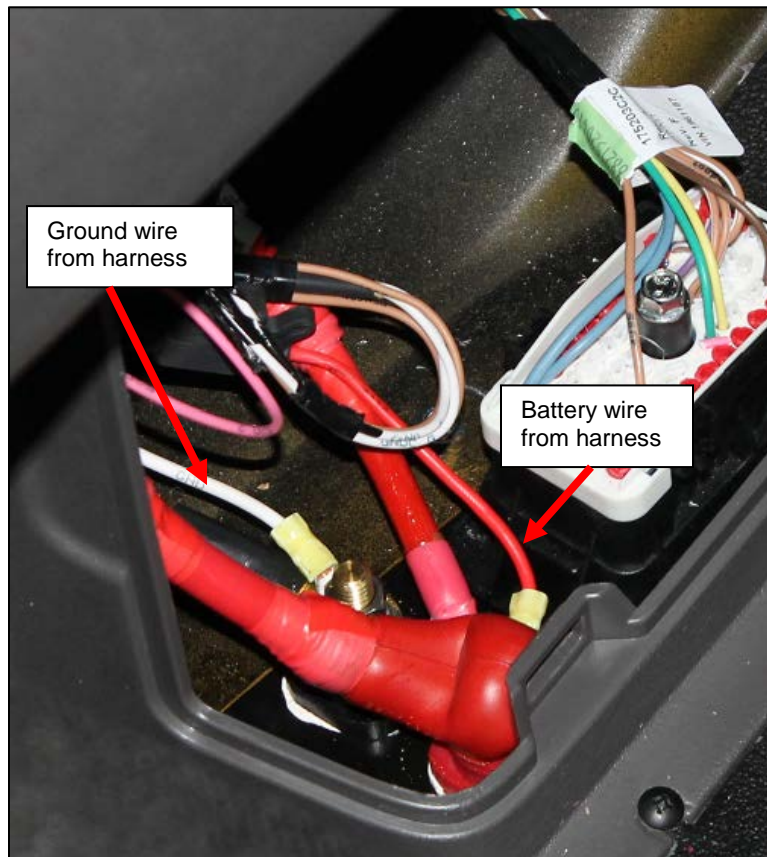

Figure 10: Battery and Ground Cable Installation
13. Install the ground from TBB 221296 by removing the nut and washer (if a washer is present). See **Figure 10** for location of the ground.
14. Attach the ring terminal to the ground stud and reinstall any terminals that were removed earlier. Reinstall the nut and washer. See **Figure 10** for final installation of the battery and ground wires.